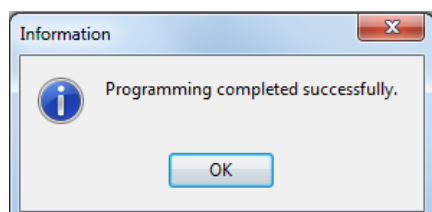

Fig. 34 Firmware upload finishing.
- Press OK to finish the upload (Fig. 34).